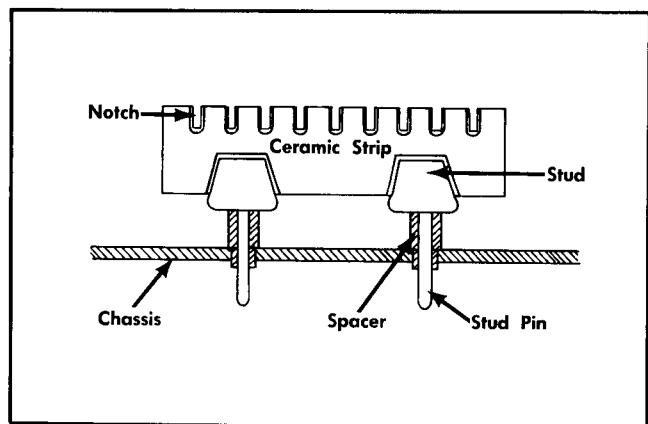

Fig. 4-3. Ceramic terminal strip assembly.
**Ceramic Terminal Strip Replacement.** A complete ceramic terminal strip assembly is shown in Fig. 4-3. Replacement strips (including studs) and spacers are supplied under separate part numbers. However, the old spacers may be re-used if they are not damaged. The applicable Tektronix Part numbers for the ceramic strips and spacers used in this instrument are given in the Mechanical Parts List.